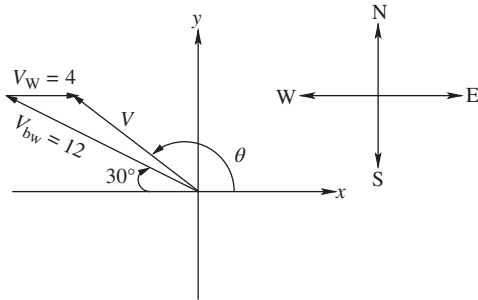

Figure P3.29 A barge crossing a river against the water current.
- 3-29.** A large barge is crossing a river at a heading of 30° northwest with a speed of 12 mph against the water as shown in Fig. P3.29. The river flows due east at a speed of 4 mph. Find the magnitude of the velocity V and the angle θ of the barge using the laws of sines and cosines.